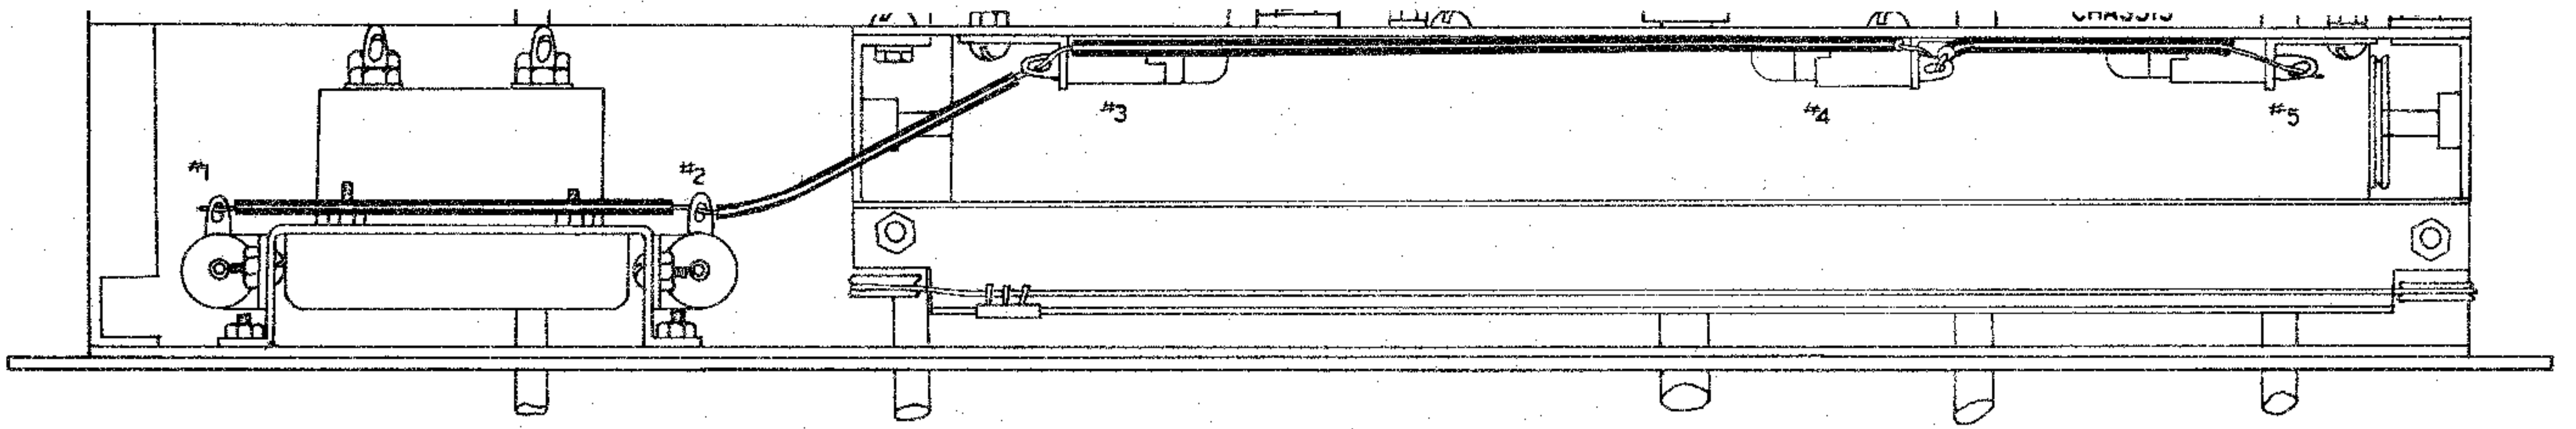

Figure 15
- Install 5 #47 pilot lights, as shown in Figure 15.